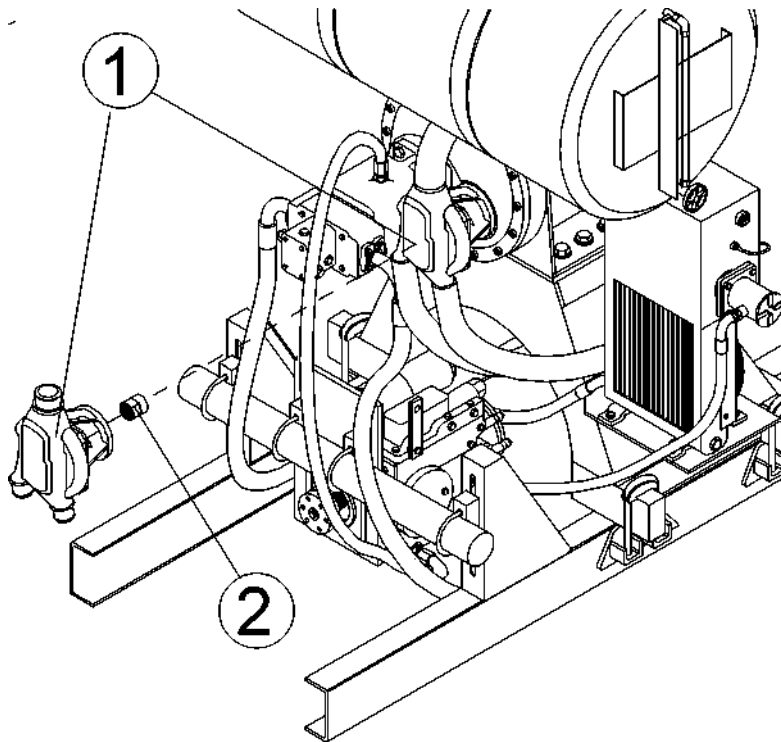

Figure 25: Replacing the water pump joint
- Remove the coupling screws between the water pump (1 figure 25) and the reducer;
- Pull out the damaged or broken joint (2 Figure 25);